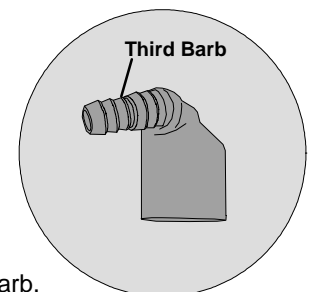

FIG. 5
- To assure a leak free connection, tubing must seat fully up to third barb. (See Fig. 5)